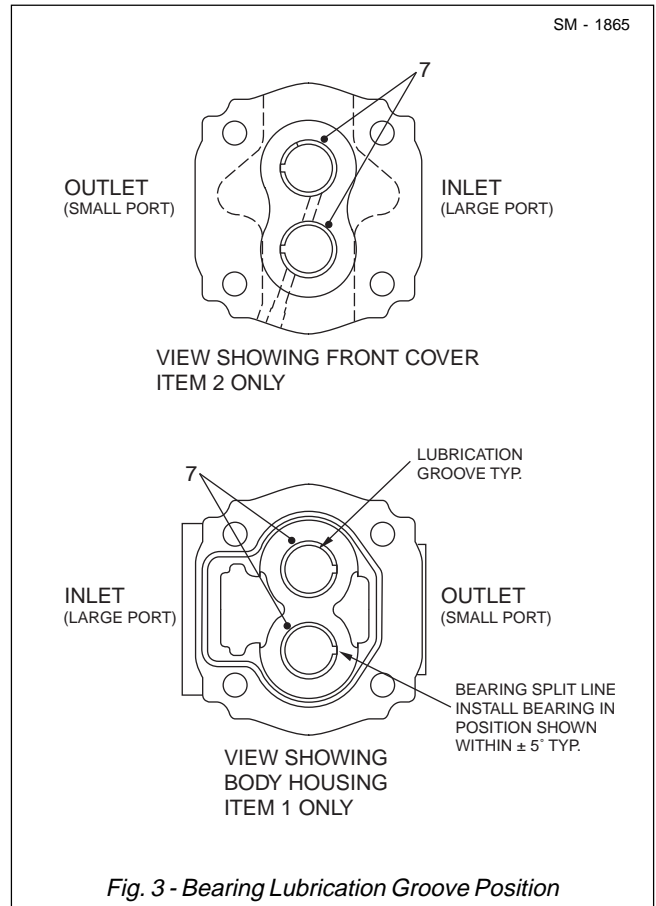

Fig. 3 - Bearing Lubrication Groove Position
1. If removed, install bearings (7) in front cover (2) and body housing (1) using an arbor press. Lightly oil bearing (7) outside diameter with mineral oil prior to insertion.
**Note:** Assemble bearings (7) in body housing (1) bores with the bushing split line positioned at 3 o'clock. The lubrication groove will be positioned at 1 o'clock.
**Note:** Assemble bearings (7) in the front cover (2) bores with the bushing split line positioned at 9 o'clock. The lubrication groove will be positioned at 11 o'clock, as shown in Fig. 3.